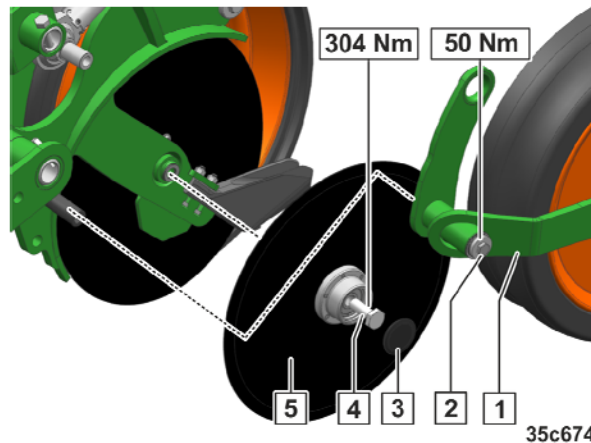

Fig. 314
1. Loosen the bolt (Fig. 314/1) and remove it.
2. Dismount the support roller arm (Fig. 314/2) with the support roller.
3. Remove the dust caps (Fig. 314/3).
4. Unscrew and remove the central bolts (Fig. 314/4).
5. Uninstall the coulter disc (Fig. 314/5).